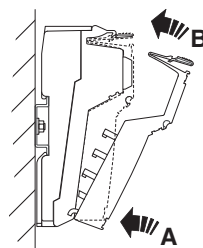

Fig. 10-12 Snapping on a connector
- Insert the connectors into the base (Fig. 10-12). First, insert the front connector shaft latching (A). Then press the top of the connectors towards the base until it snaps into place (B).